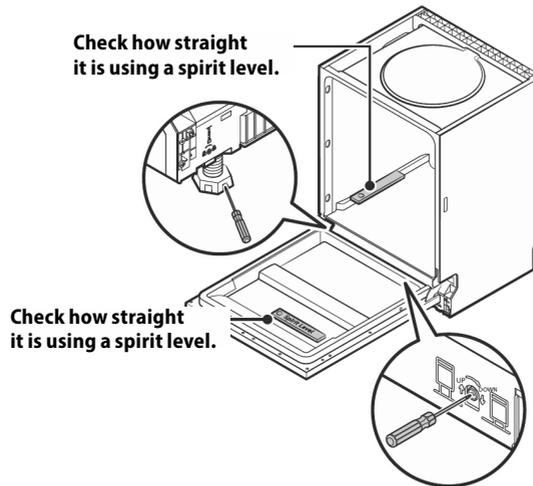

Fig. 16
8. Use the feet at the front and back of the appliance to level it to a horizontal position. Adjust the back feet by turning the screw on the bottom of the front side of the appliance (step 5). Adjust the front feet by turning screws located near the feet themselves (step 5B). Use a spirit level Fig. 16).